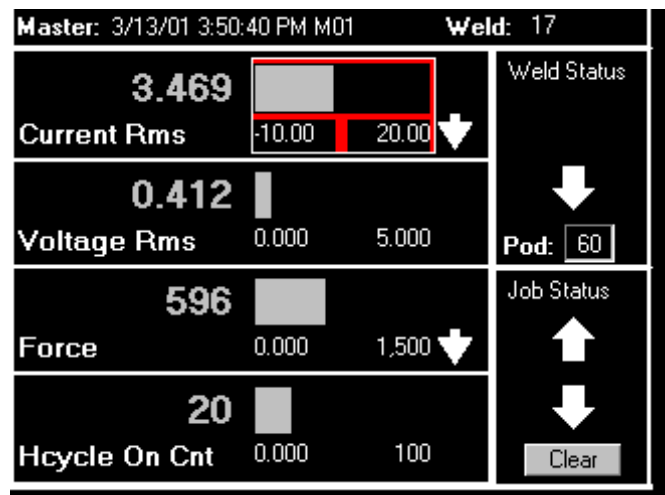
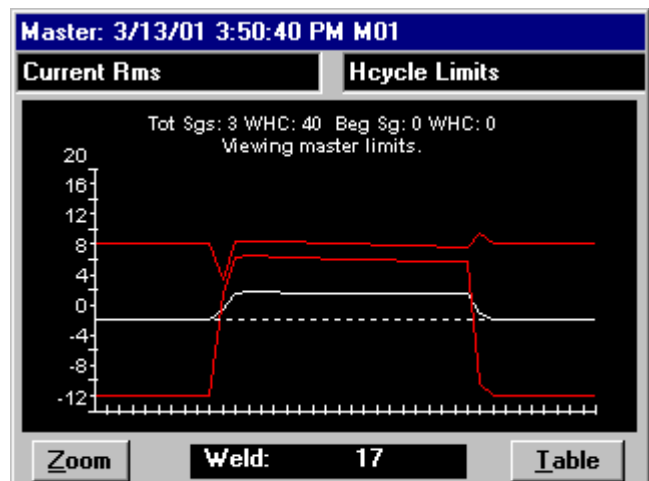

Figure 5-21 Main program screen displaying a REJECTED weld (Current Rms, etc. too low)
Figure 5-22 Halfcycle Summary for REJECTED weld
8. The **Weld Status** box should display flashing arrows, indicating a REJECTED weld, as shown in figure 5-21. Go to the **Halfcycle Summary** screen. It should look similar to figure 5-22. Notice that the **Current Rms** line is below the lower tolerance boundary, causing a REJECTED weld.